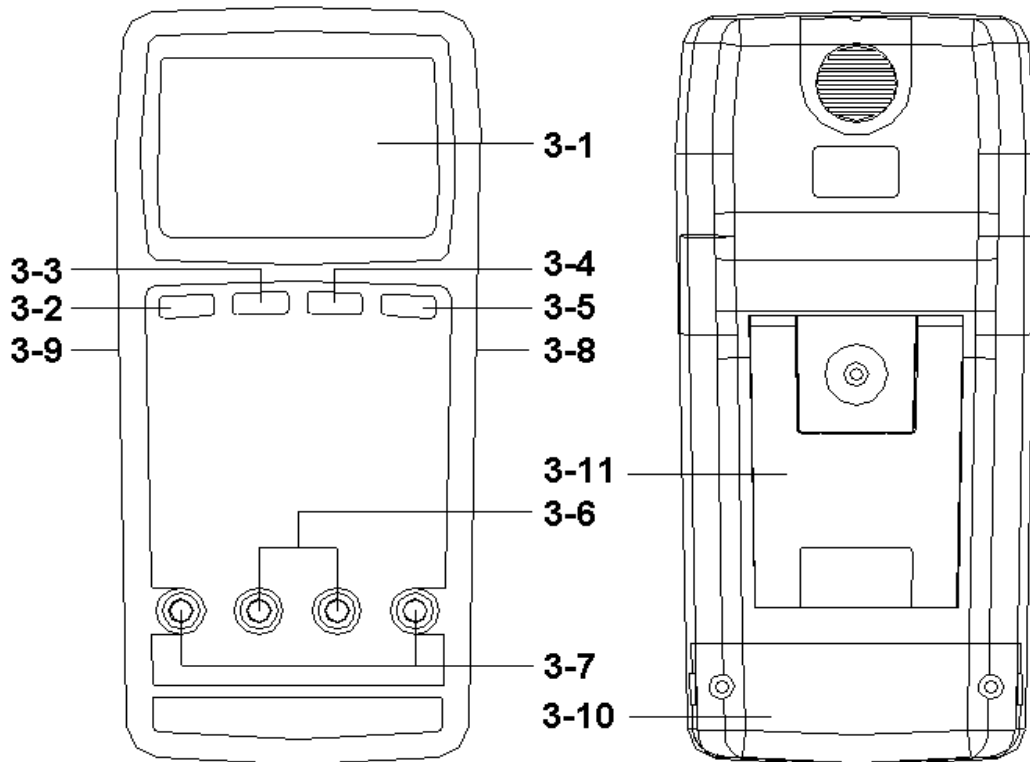

Fig. 1
- 1) Press the POWER button (3-2, Fig. 1) more than 1.5 sec to Turn ON the meter.
- 2) Press the POWER button (3-2, Fig. 1) more than 1.5 sec to Turn OFF the meter.
- 1) Press the POWER button (3-2, Fig.1) more than 1.5 sec to Turn ON the meter.
- 2) Push the FUNCTION button (3-3, Fig. 1) once then change function for measuring ACV.
- 2) Push the FUNCTION button (3-3, Fig. 1) once then change function for measuring ACA
- 6) Push the FUNCTION (3-3, Fig. 1) button once then change function for measuring ACV / ACA
- 9) At the same time. Push the FUNCTION button (3-3, Fig. 1) once then change function for measuring WATT / PF
During the measurement, press the " Hold Button " (3-4, Fig. 1) once will hold the measured value & the LCD will display a " HOLD " symbol.
- 1) The data record function records the maximum and minimum readings. Press the " REC Button " (3-5, Fig. 1) once to start the Data Record function and there will be a " REC. " symbol on the display.
- a) Press the " REC Button " (3-5, Fig. 1) once, the " REC. MAX. " symbol along with the maximum value will appear on the display.
If intend to delete the maximum value, just press the " Hold Button " (3-4, Fig. 1) once, then the display will show the " REC. " symbol only & execute the memory function continuously.
- b) Press the " REC Button " (3-5, Fig. 1) again, the " REC. MIN. " symbol along with the minimum value will appear on the display.
If intend to delete the minimum value, just press the " Hold Button " (3-4, Fig. 1) once, then the display will show the " REC. " symbol only & execute the memory function continuously.
- 2) If the instrument is working. Press the POWER button (3-2, Fig. 1) once, can turn ON the Backlight.
- 2) To de-activate this feature, Select the memory record function during measurement, by pressing the " Record button " (3-5, Fig. 1).
The instrument has RS232 PC serial interface via a 3.5 mm terminal (3-8, Fig. 1).